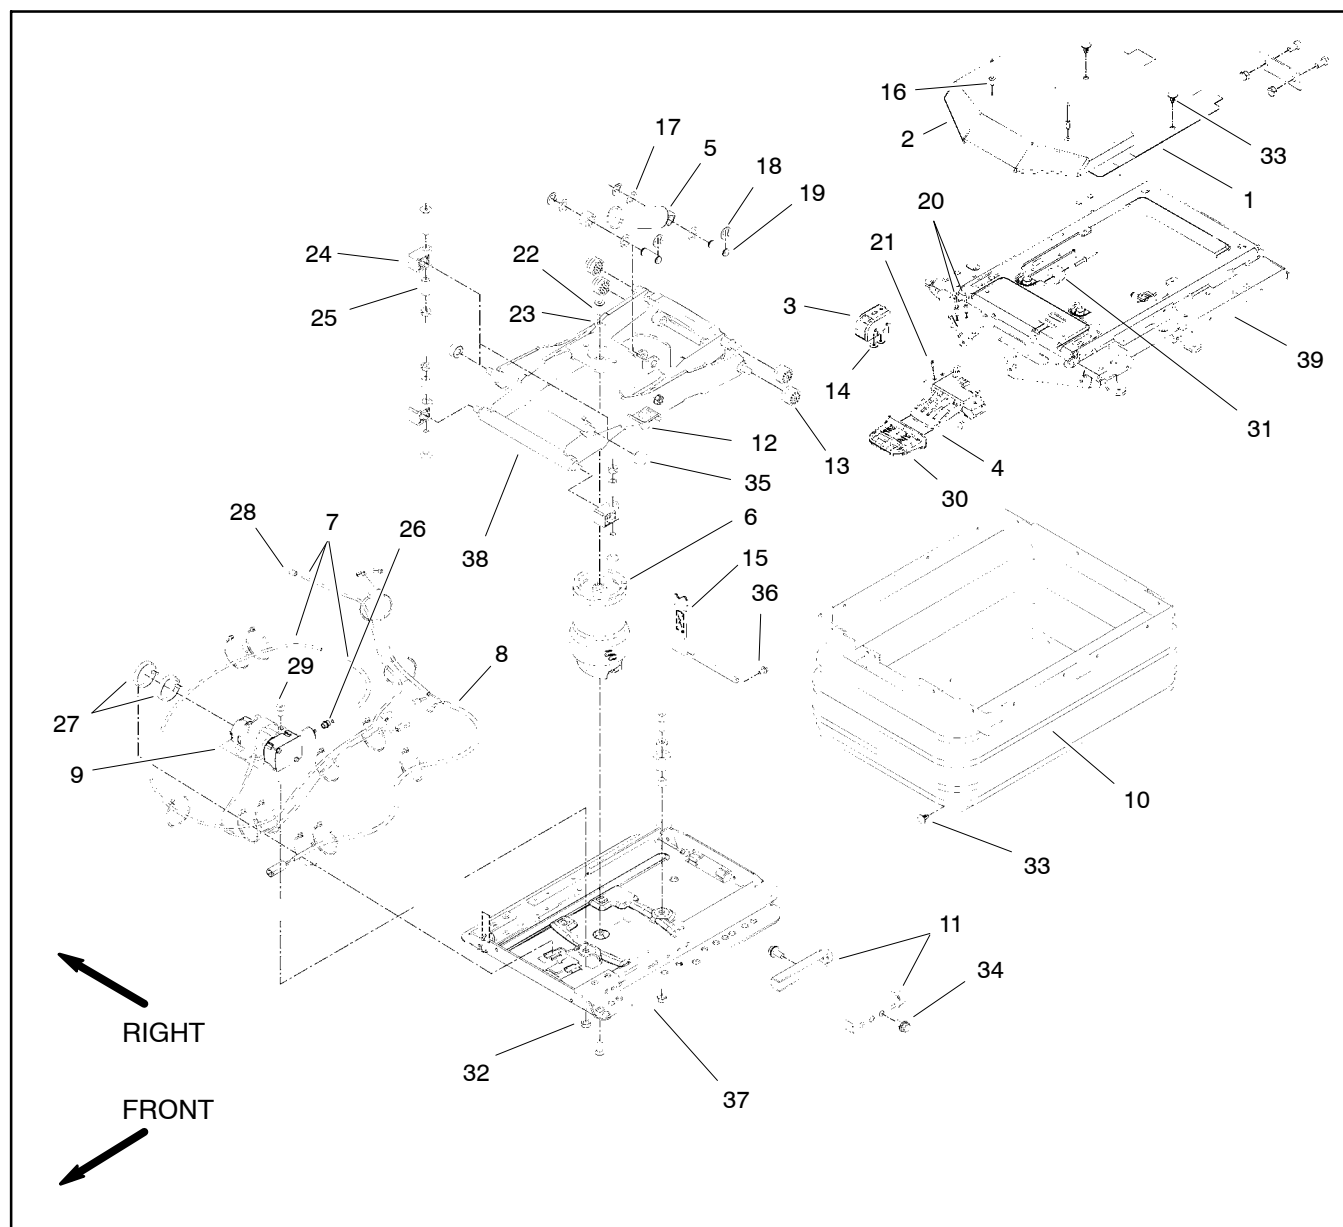

Figure 15
Disassembly (Fig. 15)
2. If the air spring assembly (item 6) or base plate (item 37) requires removal, remove seat suspension from seat platform (see Operator Seat Removal in this section).
3. Remove seat suspension components as needed using Figure 15 as a guide.
Assembly (Fig. 15)
1. Install all removed seat suspension components using Figure 15 as a guide.